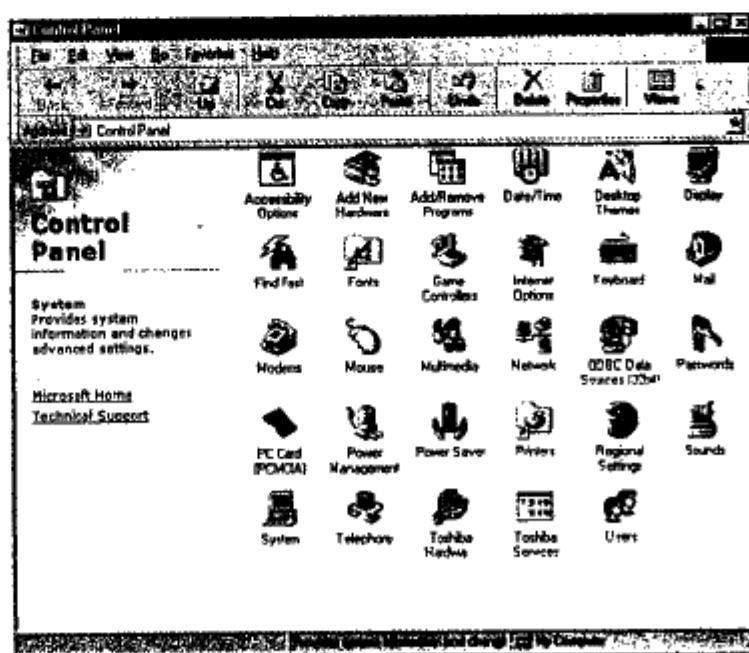

Figure 4-2
2. Click "Start" button, select "Settings" and then click "Control Panel" to open the "Control Panel" window as shown in Figure 4-2.